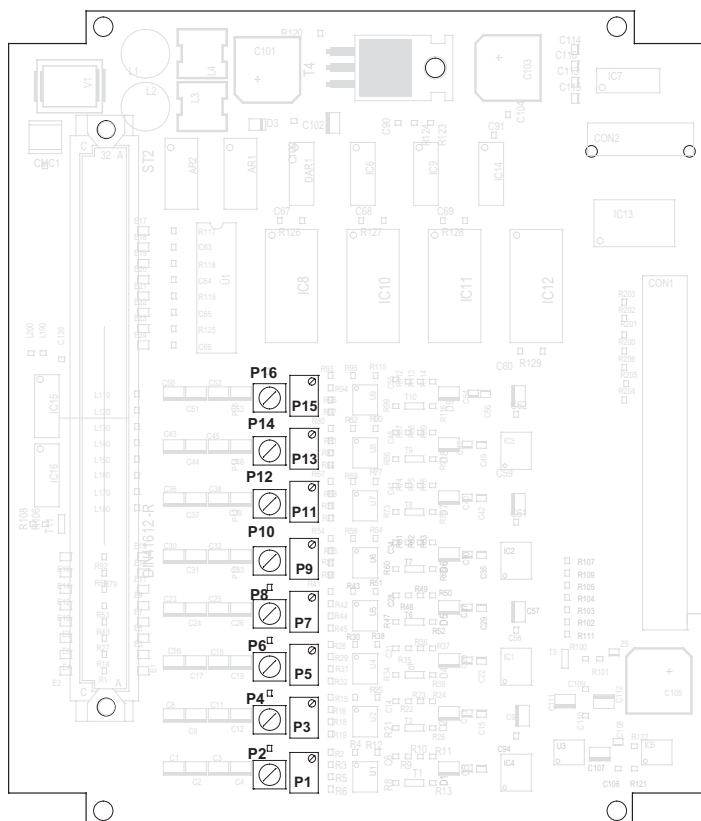

Fig. 8-1: Partial view of input pcb
3. Open the backplane cover (four screws). Store screws and metal plate. (fig. 8-1)